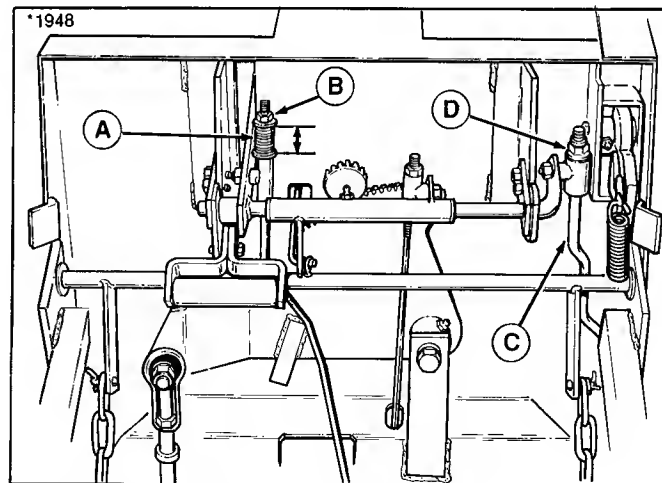

Figure 42. Hydro Models
2. The clutch rod spring (A, figure 42) should measure 1-3/16" to 1-5/16" along the long side (between insides of washers). To adjust, tighten or loosen the nut (B).
3. Pull the brake rod (C) toward front as far as possible. Tighten or loosen the nut (D) to achieve a gap of 3/8 inch between rear surface of nut and the guide that rod extends through.